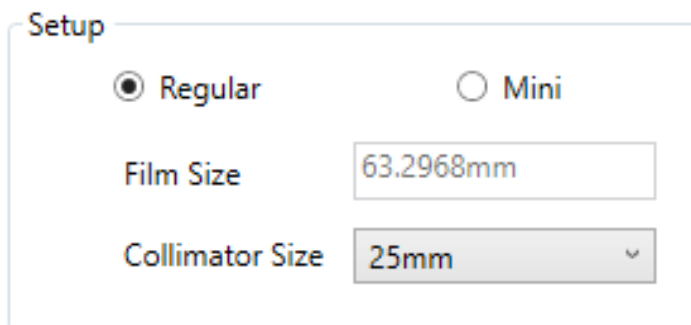

Figure 7-7 Setup ball-cube size.
4. Select the size of the Ball-cube (see Figure 7-7).